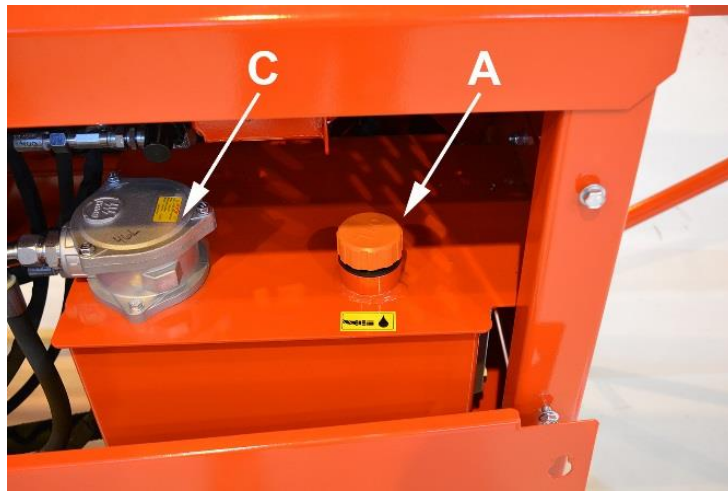

Figure 28.
2. Open filler cap A of the hydraulic oil tank in Figure 28 (this will allow the oil to drain more easily).
4. Open the hydraulic filter cover C (Figure 28) and replace the filter.